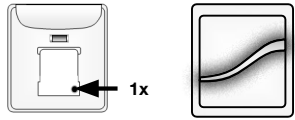

Fig. 31
- A. Press and release the program button on the back of the remote once (one tap). The LED will flash green to identify association mode. (Fig. 31)